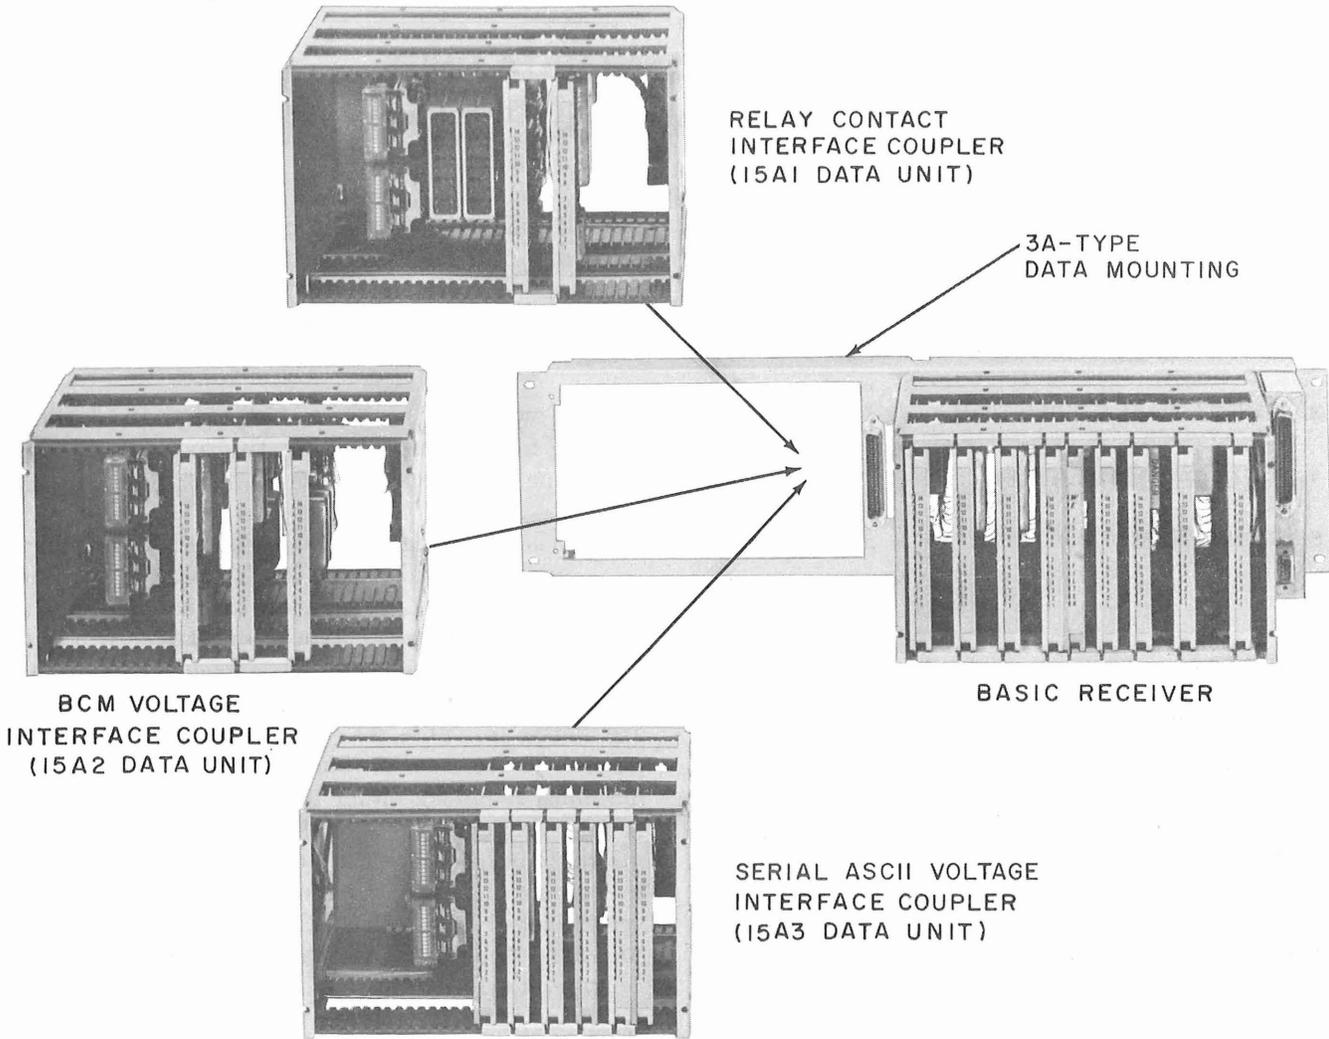

Fig. 1—Data Set 403D-Type Showing Three Related Interface Units
1.04 The three data units are interface couplers which operate with a DS 403D-type basic receiver (Fig. 1) and couple the receiver to a business machine. The current standard and superseded DS 403D-type basic receivers and the associated 15A-type Data Units and their application are listed in Table A. The data units make it possible to use the same basic receiver with business machines requiring either a relay contact interface (15A1) (on a 2-out-of-8 code basis), a binary coded matrix (15A2) (BCM—a special 4-level binary code) Electronic Industries Association (EIA) voltage interface, or a serial, ASCII (American National Standard Code for Information Interchange), EIA voltage interface (15A3).